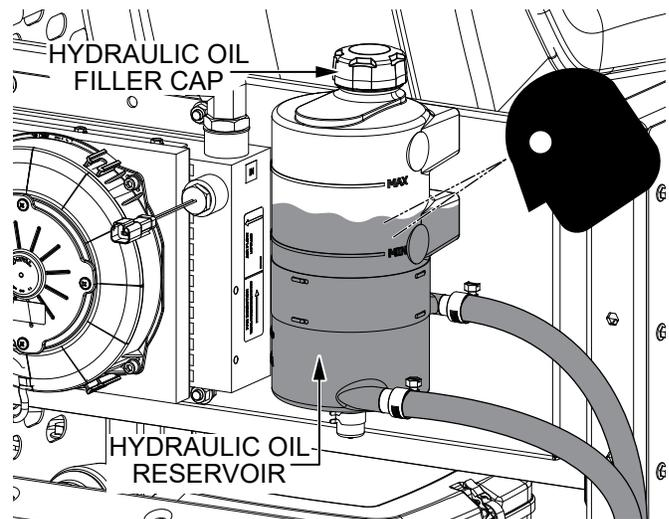

Figure 18. Hydraulic Oil Level Inspection
2. Visually inspect the level of hydraulic oil in the **hydraulic oil reservoir** (Figure 18). Hydraulic oil should be visible between the **MIN** and **MAX** lines on the reservoir.
3. If the hydraulic oil level is low, remove the **hydraulic oil filler cap** (Figure 18) and add hydraulic oil up to a level midway between the **MIN** and **MAX** lines on the reservoir. **DO NOT** overfill. Refer to Table 2 for suitable hydraulic oil types. Replace the cap when finished.